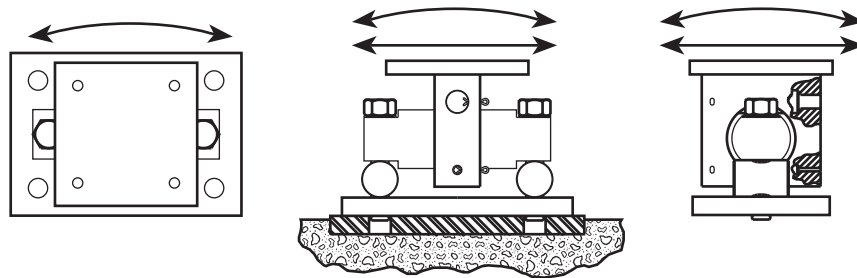

Figure 9-7. EZ Mount 1 Weigh Module
Figure 9-7 illustrates the EZ Mount 1 weigh module with arrows indication allowable movement.
- This arrangement allows the chair to move in practically all directions, as illustrated in Figure 9-7, while providing checking in all directions.